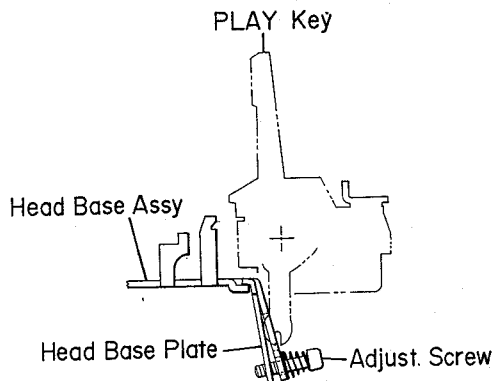

Fig. 5-10 Head Base Assembly Adjustment (1)
2. Locate the Head Base shift adjusting screw referring to Fig. 5-10 and tighten it so that when depressing slowly and locking down the Play key, Head Base Plate will move forward (in the direction of the arrow) completely.